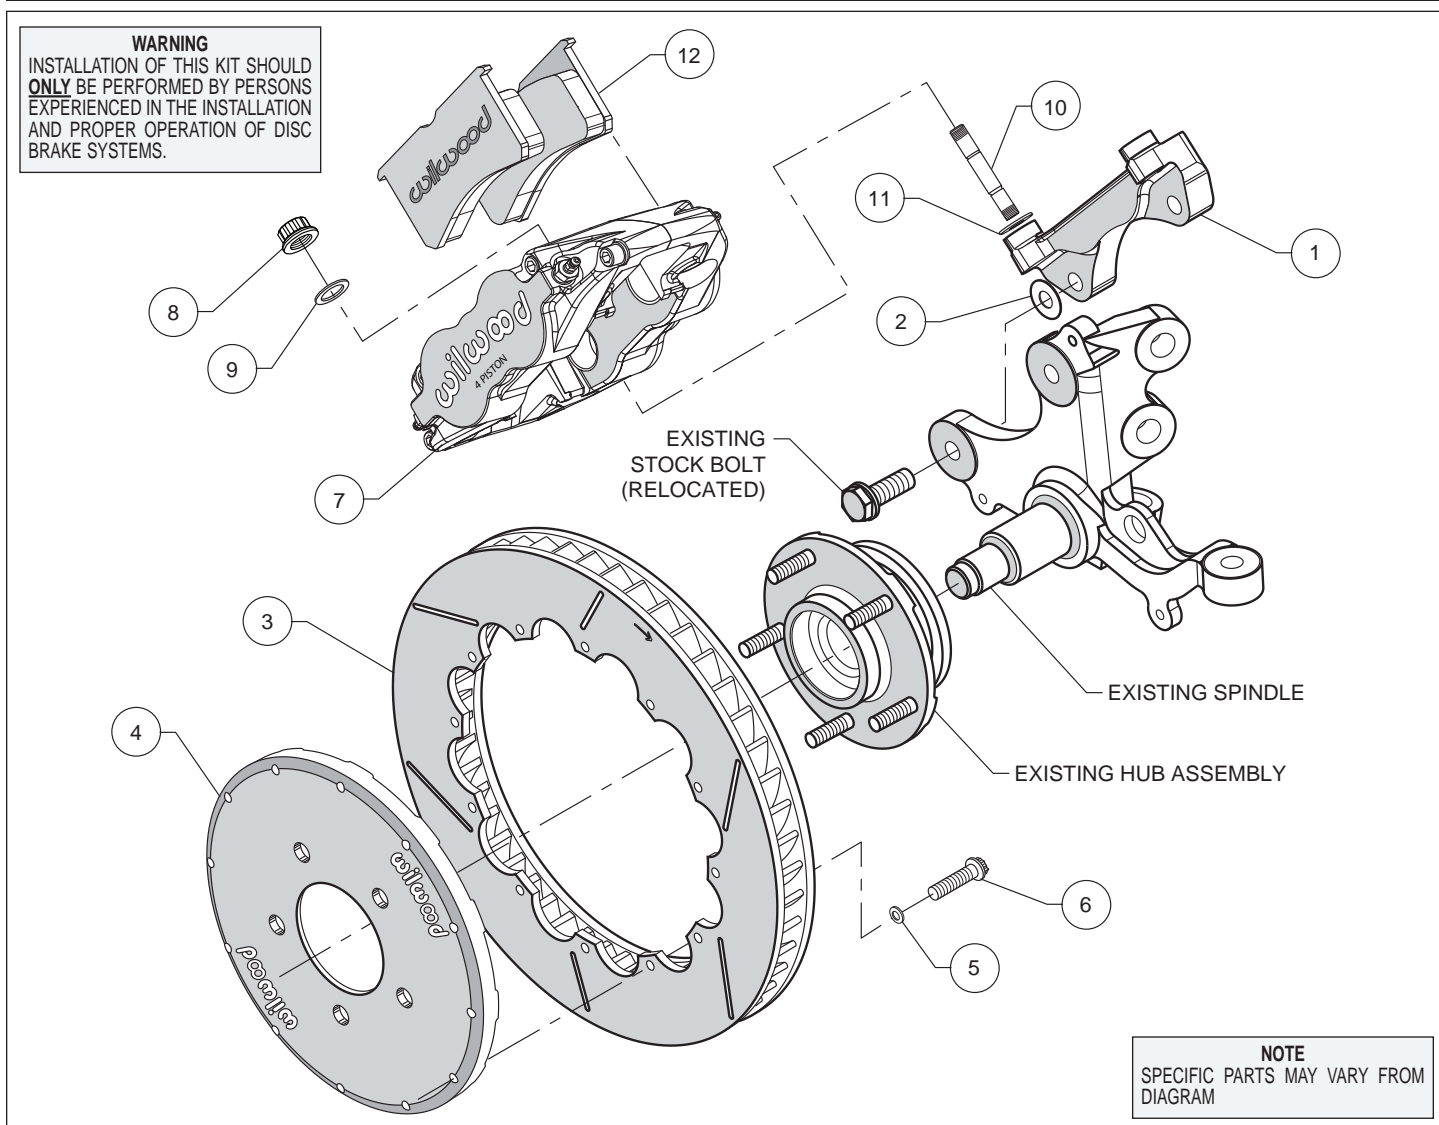

Figure 1. Typical Installation Configuration
- NOTE:** This kit contains distinct right and left hand calipers that must be mounted in a specific direction, as described below. Lubricate the caliper mounting studs (10) with lightweight oil. Initially place one .035" thick shim (11) on each stud as shown in Figure 1. Mount the caliper (7) onto the bracket (1) using lock nuts (8) and washers (9), Figure 1. Ensure that the caliper is mounted so that the largest pistons are at the rotor exit end of the caliper, in relation to the direction of rotor rotation. Temporarily tighten the lock nuts and view the rotor through the top opening of the caliper. The rotor should be centered in the caliper. If not, adjust by adding or subtracting shims (2) between the bracket and the upright. Always use the same amount of shims on each of the two mounting bolts. Once the caliper alignment is correct, remove the stock bracket mounting bolts one at a time, apply red *Loctite*® 271 to the threads, and torque to manufacturer's specifications.
- Remove the caliper center bridge pad retainer bolt, nut, and tube from the caliper. Insert the brake pads (12) into the caliper, with the friction material facing the rotor. Check that the top of the brake pad is flush with the outside diameter of the rotor. If not, adjust by adding or subtracting shims (11) between the caliper and the bracket. After the caliper pad height is set, reinstall the center bridge pad retainer tube, bolt, and lock nut. The lock nut should be snug without play in the bolt or tube. Be cautious not to over tighten. Torque the caliper lock nuts (8) to 30 ft-lb.